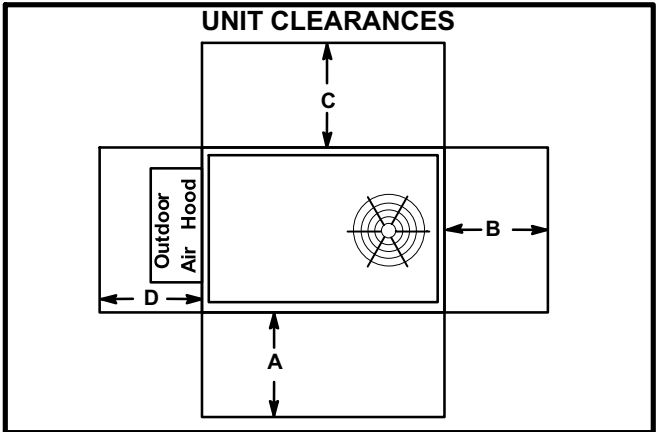

FIGURE 1
See figure 1 for unit clearances.
The LDT unit is ETL/CSA certified for outdoor installations only at the clearances to combustibles listed on unit nameplate and in figure 1.
The LHT unit is ETL/CSA certified as a heat pump with cooling and with or without auxiliary electric heat for outdoor installations only at the clearances to combustibles as listed on the unit nameplate and in figure 1.
- 2- Specified installation clearances must be maintained when installing units. Refer to figure 1.